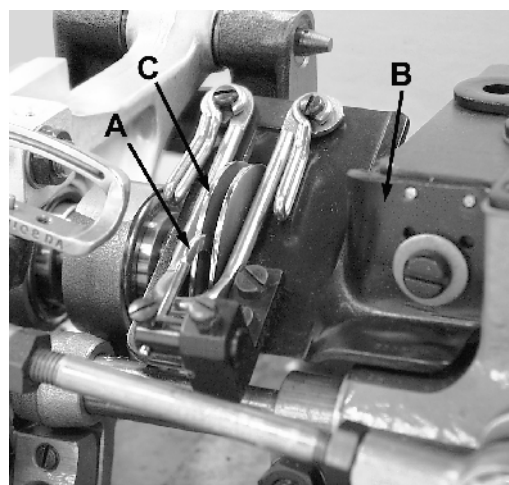

Fig 13
Looper thread cast-off wire (A, Fig. 13) located on the take-up shield (B) controls the amount of slack thread in the system and can be moved to any position. It should be set laterally so that it is midway between the two discs of take-up (C) and the tip parallel with the discs.